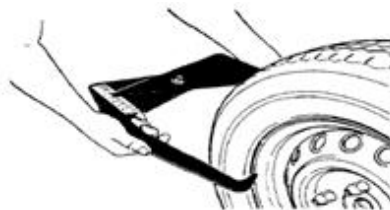
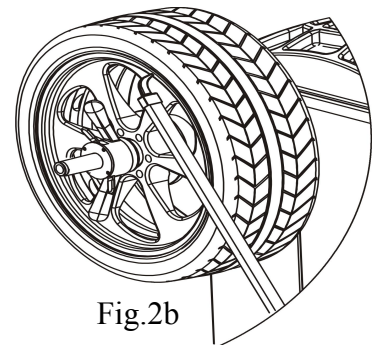

Fig.2a
Fig.2b
- set “b” value: set nominal diameter “b” marked on the wheel or use the width gauge to measure the value of “b” as Fig.2a, then press **b+** and **b-**. If the balancer is with optional width gauge, let the gauge head touch the rim as Fig.2b, until there is a sound, means successful memorization is give, then release the gauge.